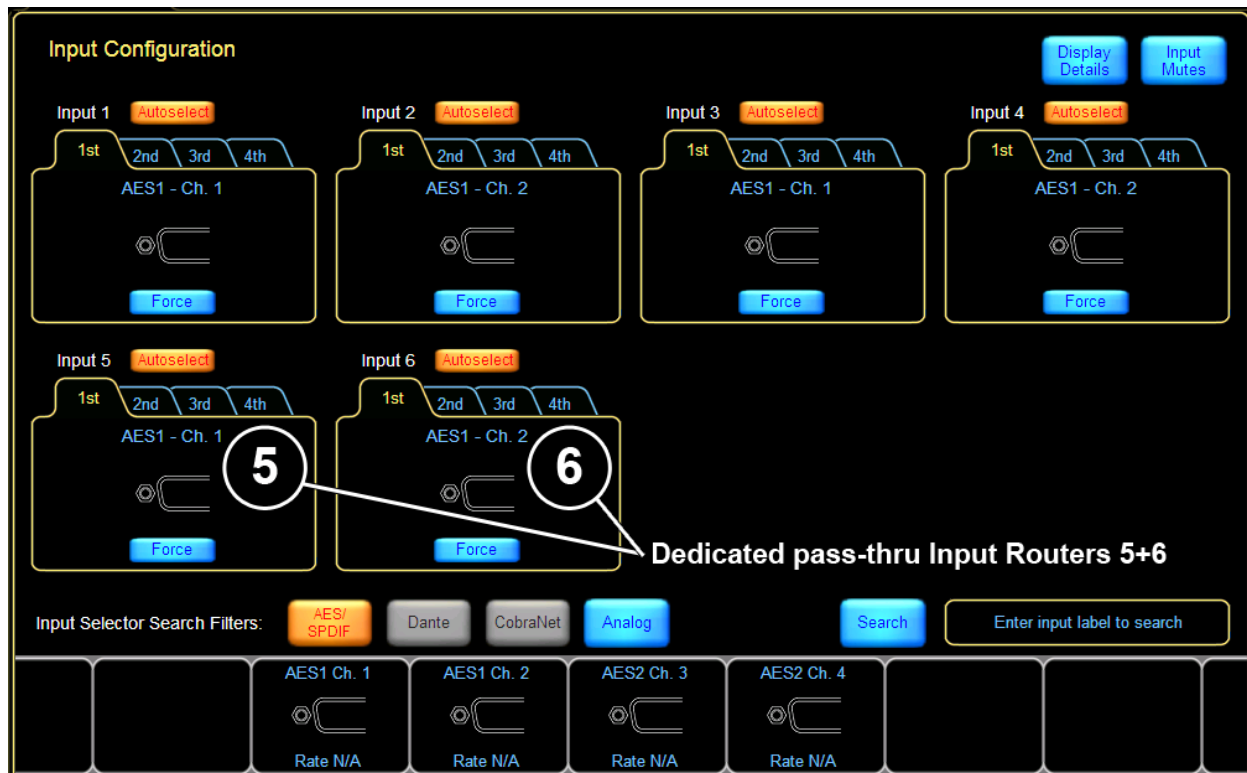

Figure 18-2: Input Configuration - Pass-thru Input Routers
2. Configure routers 5 + 6 with the relevant inputs and priorities as described in section 7.2.2. Pass-thru Input Routers 5+6 are identified in Figure 18-2.